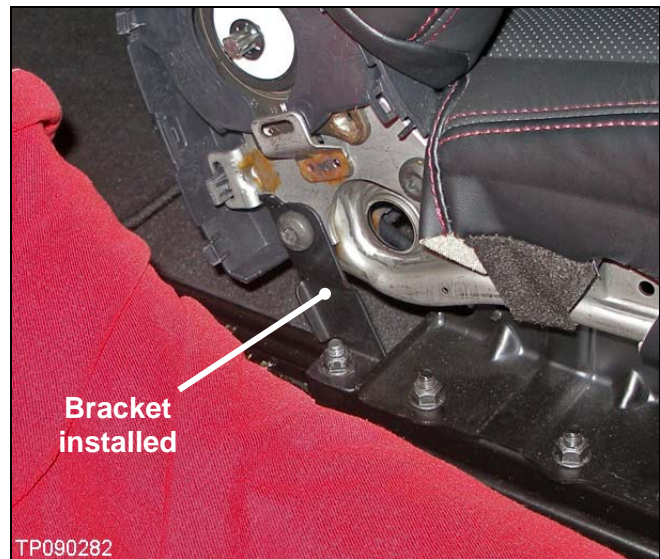

Figure 6
4. Torque the bolt first, and then the nut. Figure 6 shows the bracket installed.